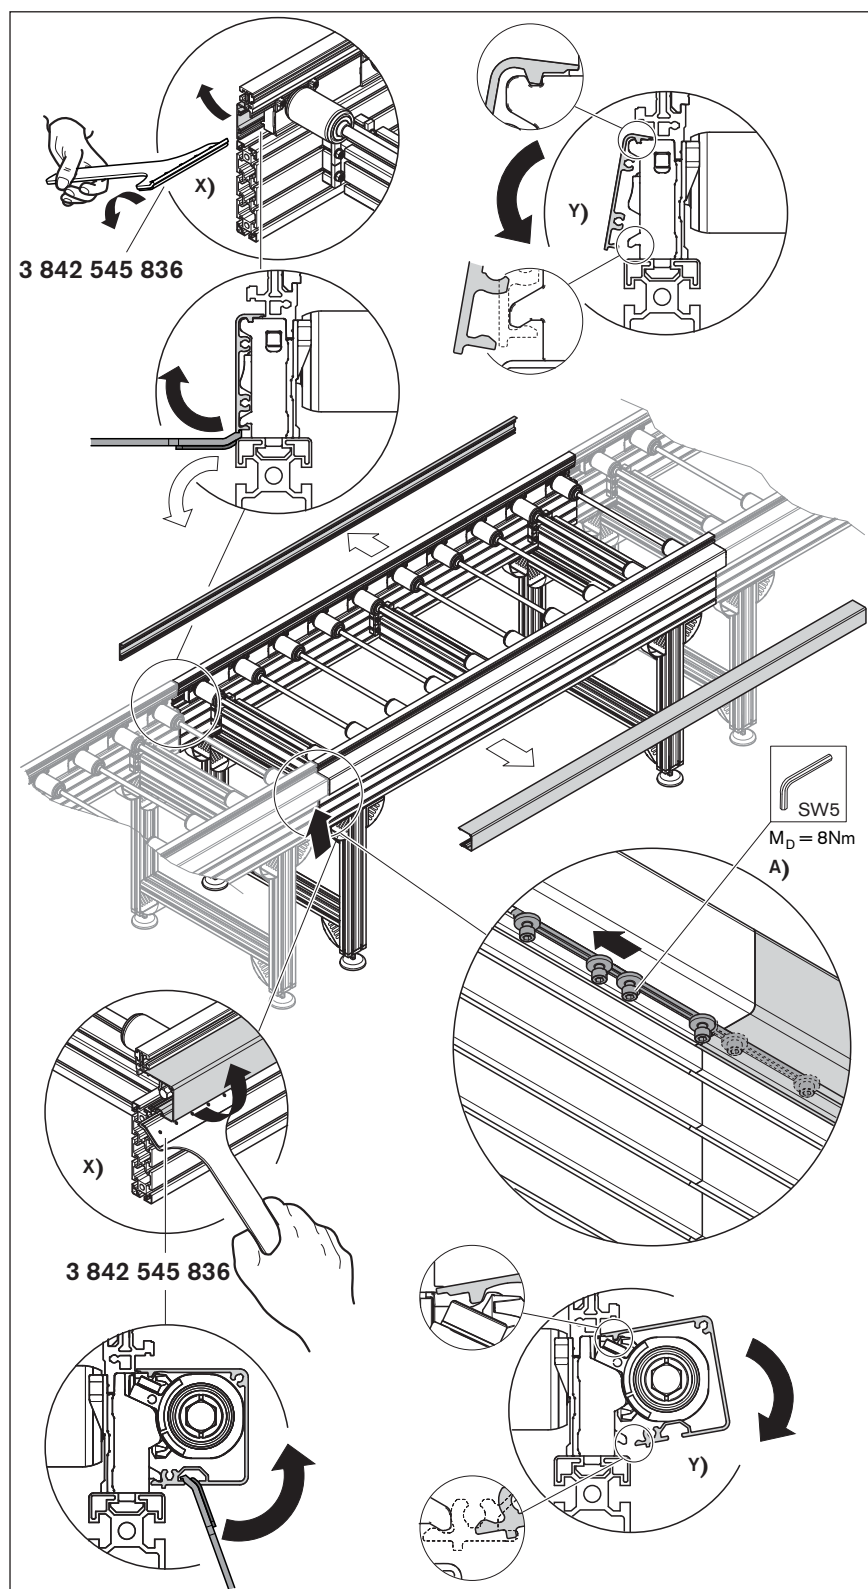

Fig. 79 Replacing the roller (1/3)
9. Connect the king shaft to couplings (☞ 112, Fig. 79).